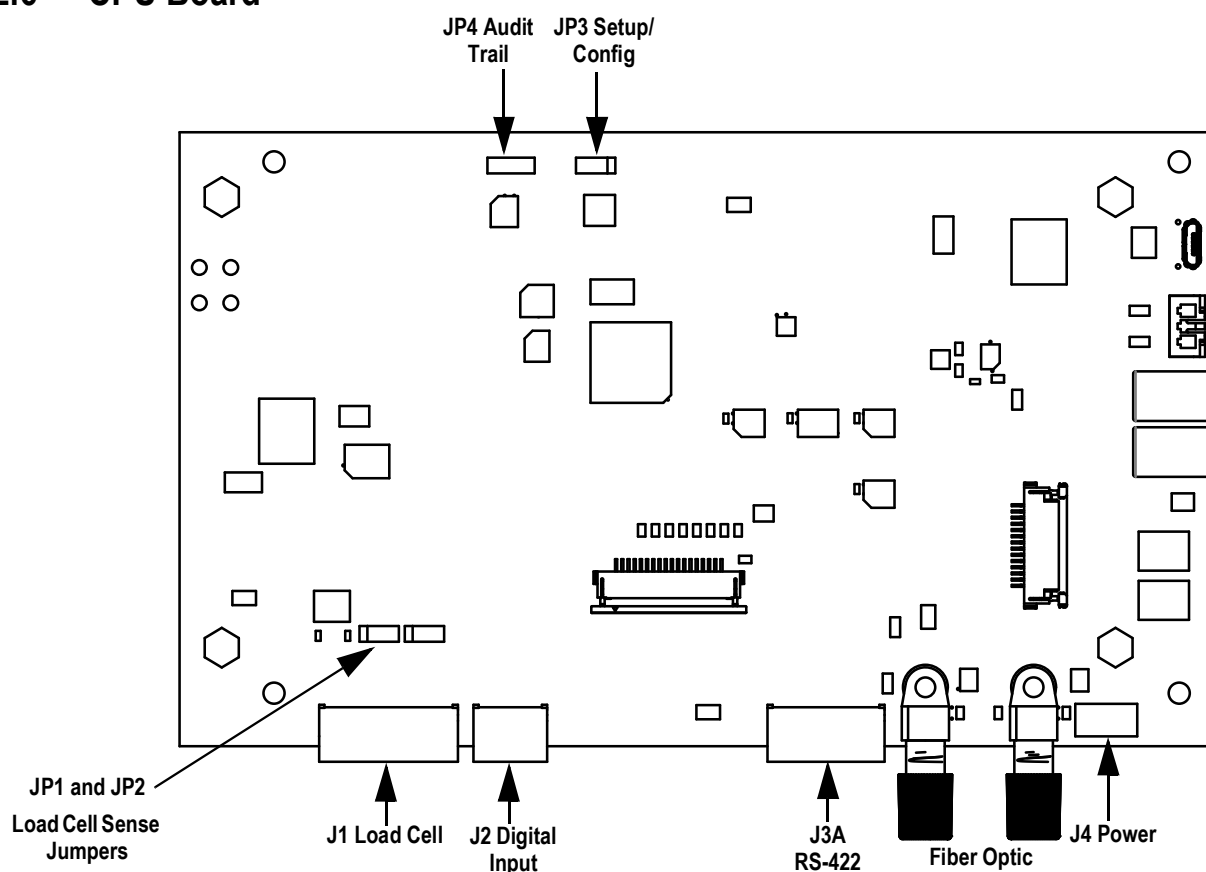

Figure 2-11. 882IS CPU Board
**Note** For 4-wire installation, leave jumpers JP1 and JP2 on (see Figure 2-11 on page 19).
Connector J3A (see Figure 2-11) provides connections for the four-wire RS-422 serial communications. Table 2-4 shows the pin assignments.